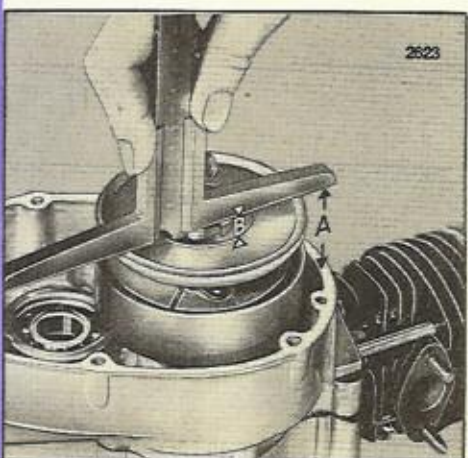

Fig. 9
For easier measuring remove springing and spring (see figure 9).
- From end of driver to engine (figure 9 length A)
- From driver to driving disc and washer (figure 9 length B)
(figure 9 length A) 1.7323 in (44.0 mm)
(figure 9 length B) — .1339 in (3.4 mm)